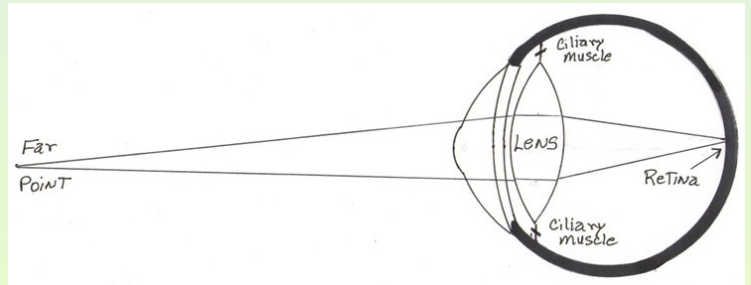

Figure 2: Anatomy of eye for Far vision. (used with permission of the author)
The lens focuses light images onto the retina, the structure with the visually active rod and cone cells. Light from far object, generally considered more than 20 feet away, requires less refraction than light from near object (1). For far vision, the lens is in the relaxed condition. Refracting of light by the relaxed lens places a sharp image on the retina (figure 2)